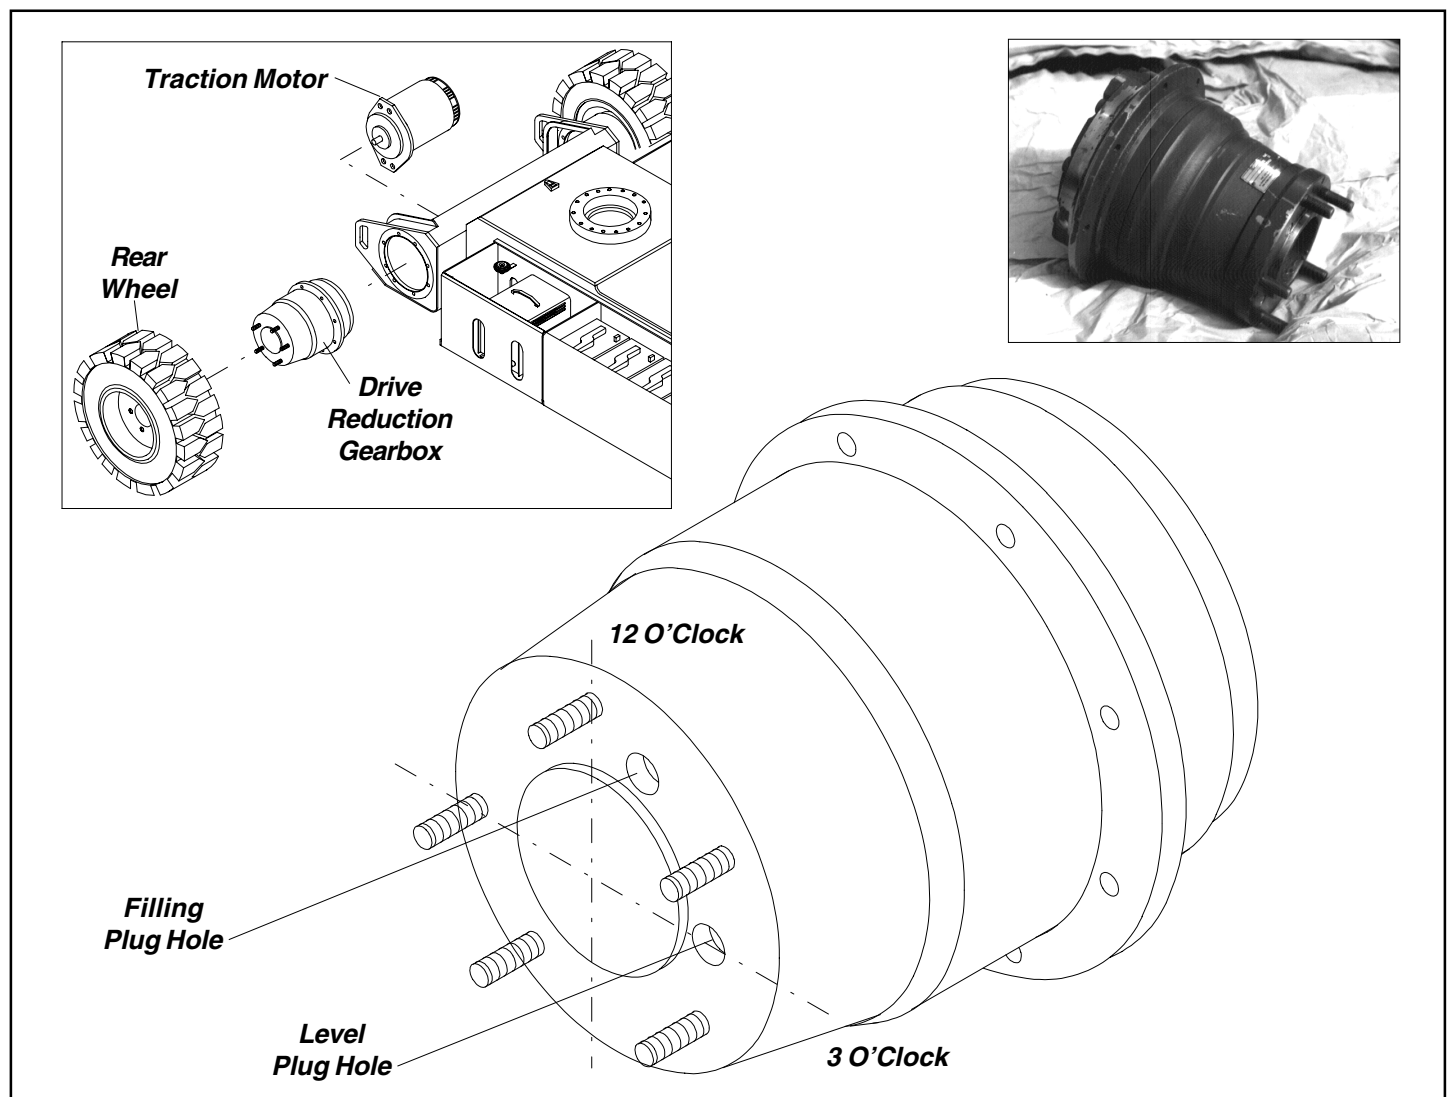

Figure 4-14: Drive Reduction Gearbox
4.12 Drive Reduction Gearbox (Figure 4-14)
11. The Gearbox needs to be half filled which requires approximately 0.9 Litres (0.23 Gallons US) of oil. To check this level, rotate the Gearbox into the horizontal position with one of the filler/drain plug holes in the 3 O' Clock position and the other plug hole above it (See fig 4-14). When the Gearbox is half full oil will just start to trickle out the plug hole in the 3 O'Clock position.